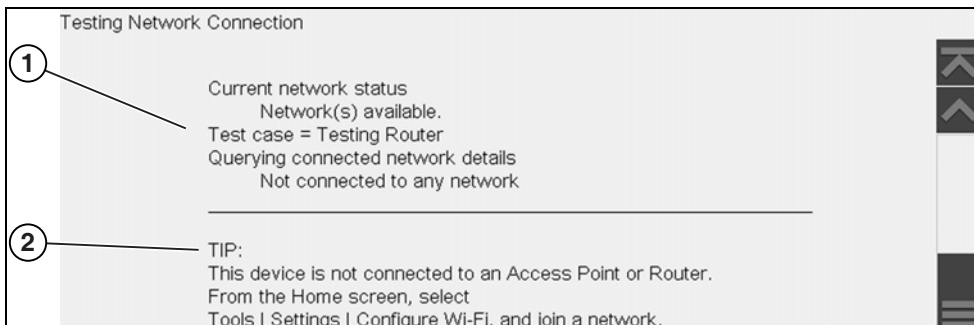

Figure 14-5 View Summary
- If a connection issue(s) is present, select **View Summary** to review the results. The summary information is helpful if you are experiencing difficulties with your connection (Figure 14-5). Scroll through the summary information to review the test results for each system and Tip messages for the current connection issue. See *Connection Tests - Troubleshooting* chart in “Wi-Fi Troubleshooting and Status Messages” on page 127 for additional information.